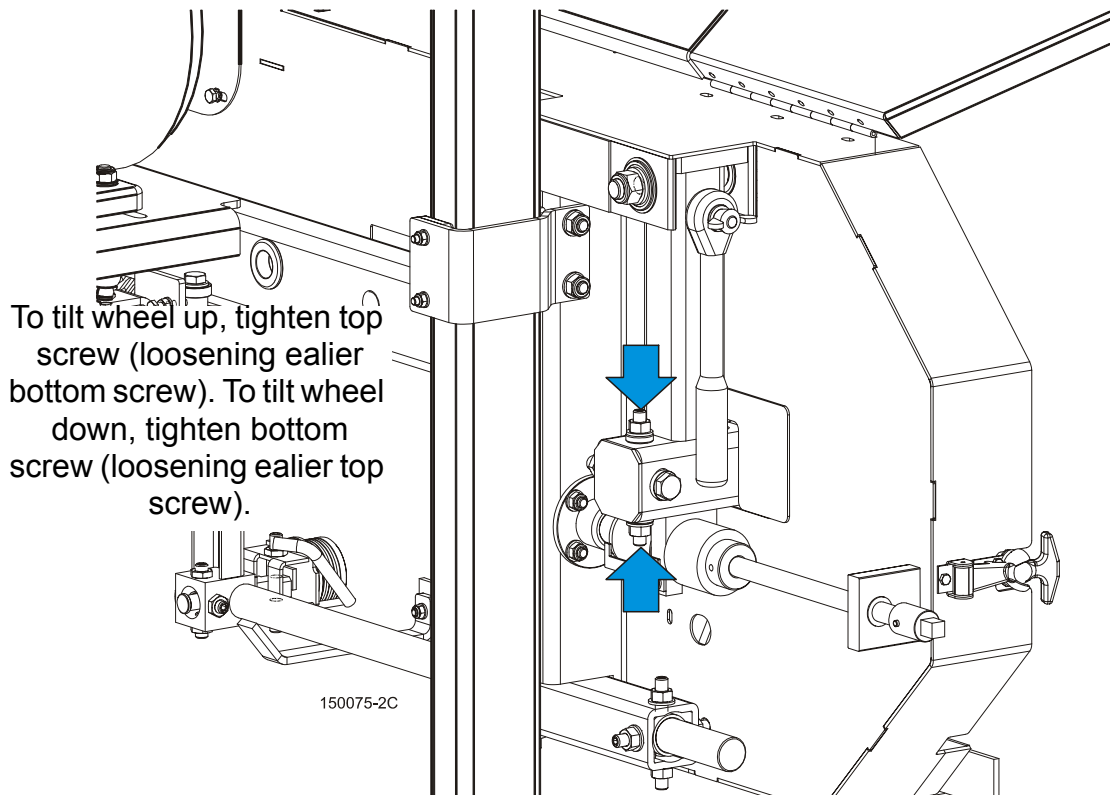

FIG. 3-4
- If the two measurements differ by more than $1/16''$ (1.5 mm), adjust the vertical tilt of the idle-side blade wheel. See Figure 3-4.
See Figure 3-4. To tilt the idle-side blade wheel up, loosen the bottom adjustment screw $1/2$ turn. Loosen the nut on the top adjustment screw and tighten the screw. Tighten the top and bottom nuts.